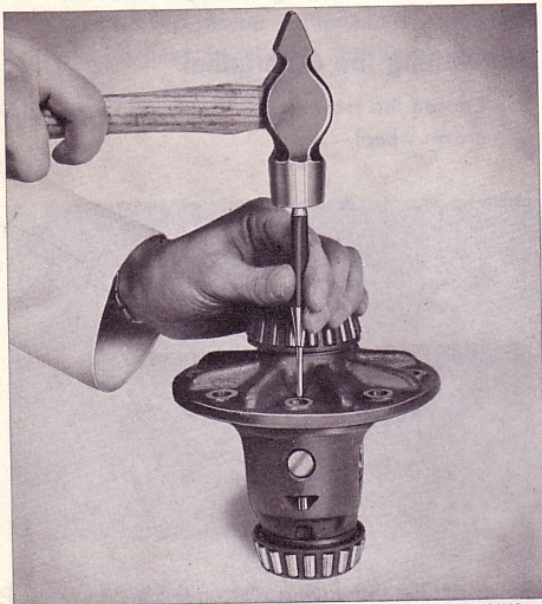

Fig. 33. Removing lock pin
2. Drive out the lock pin, see Fig. 33, and then the shaft for the differential gears. Remove the thrust block, the differential gears and the thrust washers.